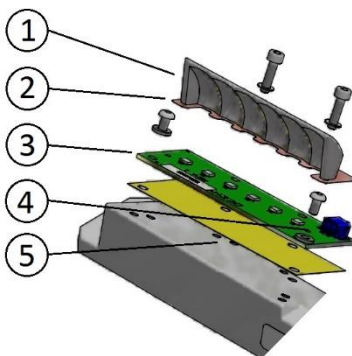

Figure 21 – LED Module Replacement (Threshold)
- disconnect the power supply connector from the LED module (Figure 21 – n°4)
- remove the LED module (Figure 21 – n°3) and the relevant reflector (Figure 21 – n°1) from the mounting plate unscrewing the two screw HSCS M3x12
- check that the thermal interface (Figure 21 – n°5) is placed under the LED module and right-positioned
- check that the Kapton insulating sheet (Figure 21 – n°2) is placed over the LED board is lying down and right-positioned
- reconnect the power supply connector (Figure 21 – n°4) to the LED module